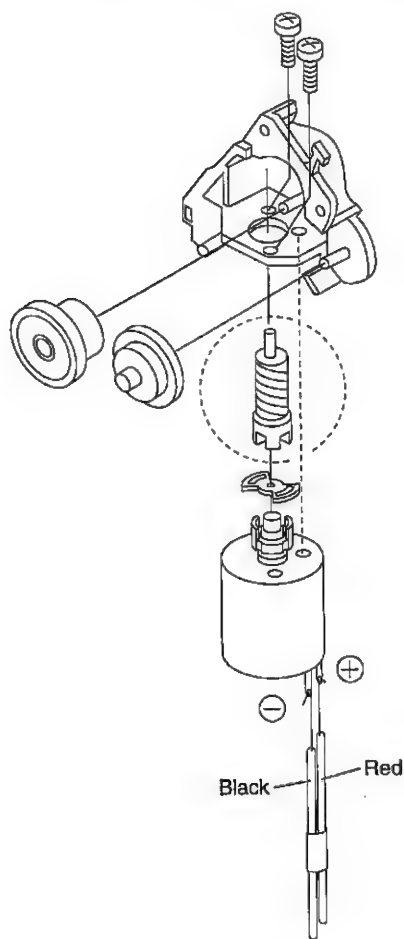

Figure 4-44.
- ① Take out the old loading motor. Place a replacement loading motor as shown above (Figure 4-44.).